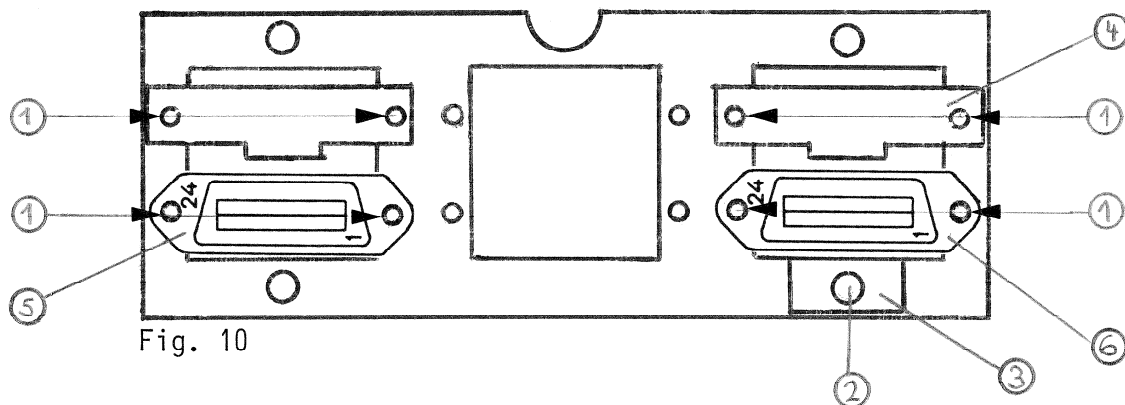

Fig. 10
Loosen the 4 nuts M3 (1) (see figure 10) of the reprohead connector (6) and cable support (4). Loosen the 2 screws (2) (2.5 mm allen). Pull the repro cable carefully through the metal cable trunk and remove it upward through the aperture of the connection board.